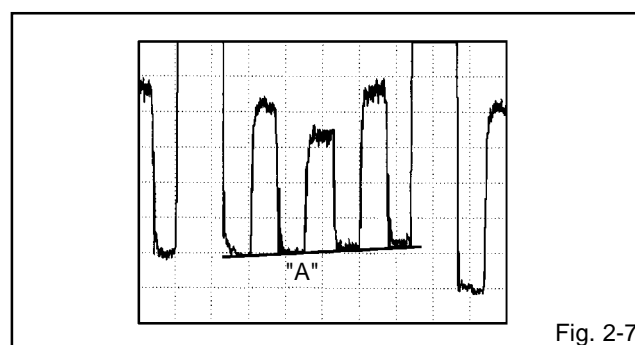

Fig. 2-7
6. Press the VOL. UP/DOWN button on the remote control until the section "A" becomes a straight line. (Refer to **Fig. 2-7**)